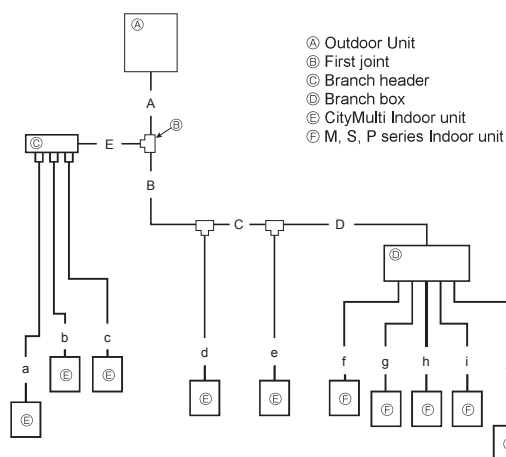

Fig. 4-6
4.3.3. Mixed system (City Multi indoor units and M, S, P series indoor units via Branch box) (Fig. 4-6)